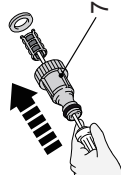

Fig. 40
1. Remove the water inlet hose connector (7) from the water inlet (5).
2. Use a damp tool to disassemble the water inlet hose connector (7) (Fig. 40).